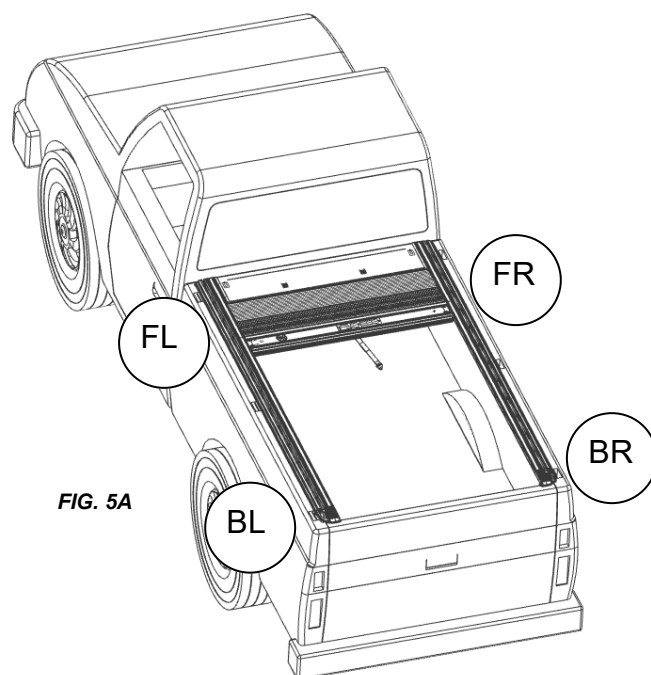

FIG. 5A
Slide the clamp extensions on the tailgate and cab end of each rail as pictured in Figure 5A-5F. Ensure that your tailgate end and cab end extensions are in the correct orientation and have the correct stick on shims. Each clamp extension is labeled for front left (FL), front right (FR), back left (BL), and back right (BR). The extensions go on the corners shown in figure 5A.